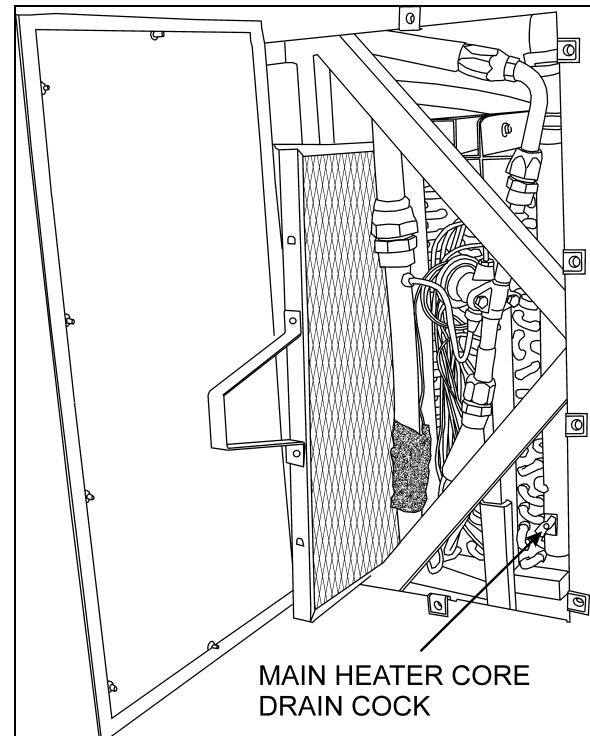

FIGURE 43: EVAPORATOR COMPARTMENT
4. Open drain cock in bottom of heater core, you can unfasten a hose connection on top of heater core (Fig.43) in order to allow air to enter while draining.